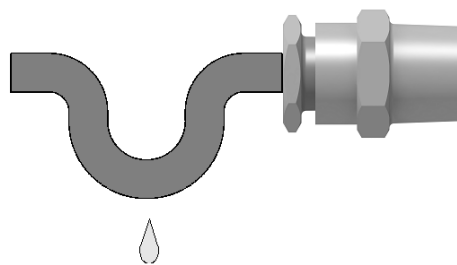

Fig.2.8 - Cable glands scheme
- Form a U-shaped drip before cable inlet to protect it from moisture (see fig.2.8)